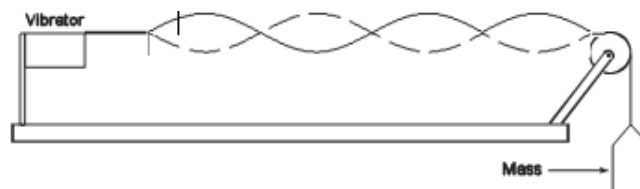

Figure 10.2 – Resonance on a vibrating string.
Setup: A schematic diagram of the experimental setup is shown in Figure 10-2. The string is held horizontally by the vibrator at one end and by weights hung over the pulley at the other end. The mass of the weights can be varied to produce different tension in the string.
1. Set up the apparatus as shown in Figure 10-2. There will be nylon strings of several different linear densities available. Your instructor will make sure that each group gets a string with different density.